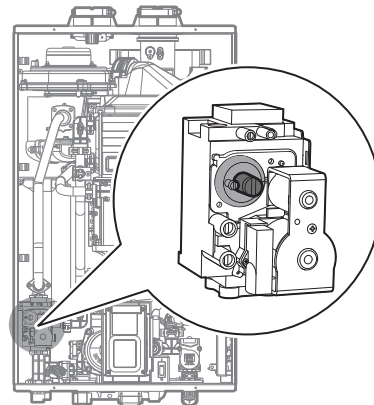

Figure 8. Set Screw Location
- Fully open several hot water fixtures and set the water heater to operate at 1-stage MIN mode (refer to page 64). Measure the CO₂ value at low fire. If the CO₂ value is not within 0.5% of the value listed in Table 2, the gas valve set screw will need to be adjusted. If adjustment is necessary, locate the set screw as shown in Figure 8. Using a $\frac{5}{32}$ in or 4 mm Allen wrench, turn the set screw no more than $\frac{1}{4}$ turn clockwise to raise or counterclockwise to lower the CO₂ value.